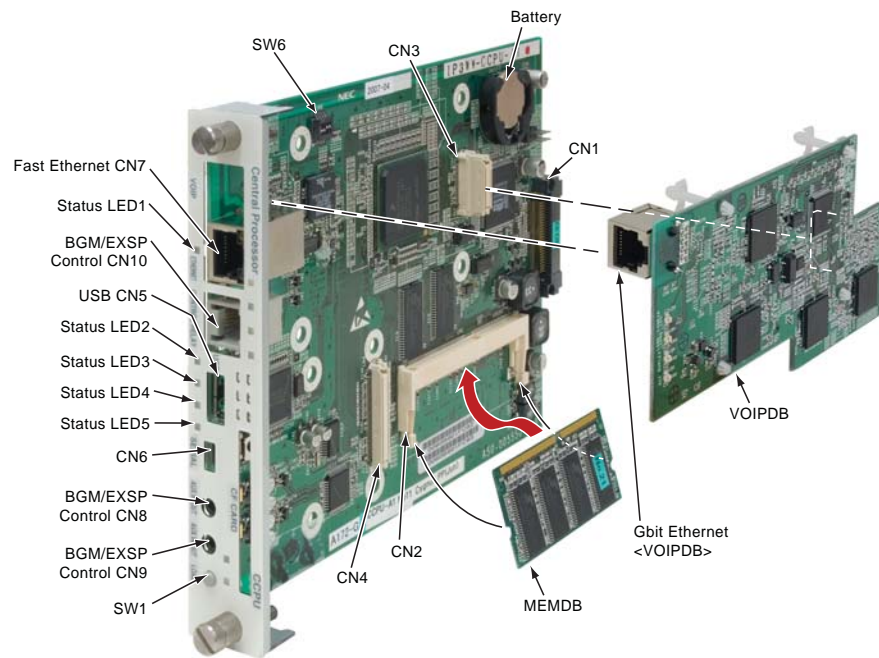

Figure 2-12: MEMORY EXPANSION DAUGHTER BOARD INSTALLATION
2.4.3 Memory Expansion Daughter Board (Figure 2-12) - P/N 0911060